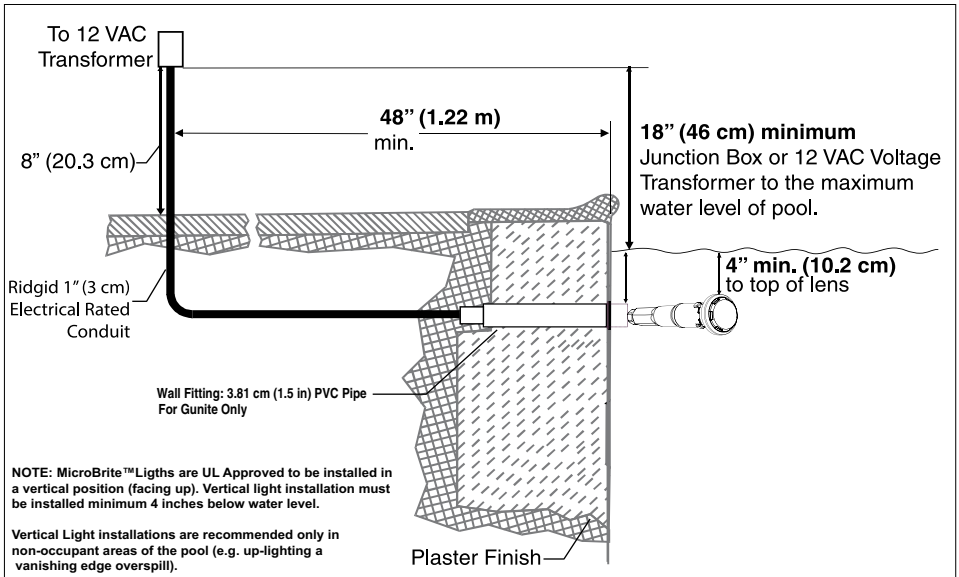
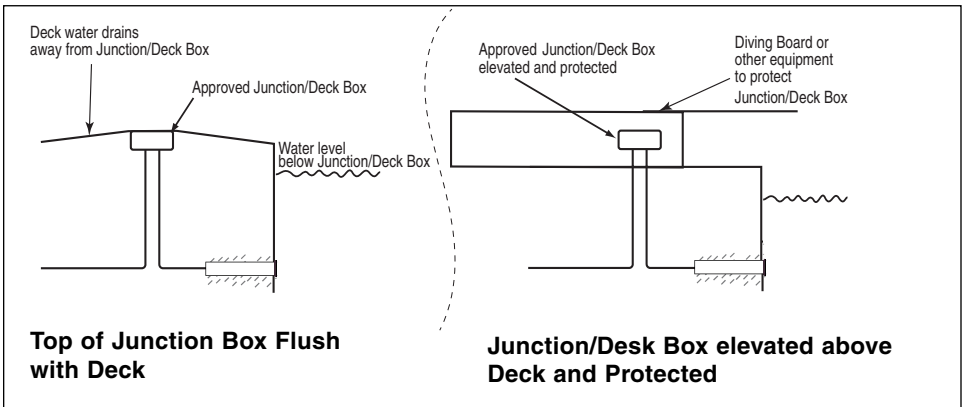

Figure 1.
Figure 2, Canada.
BEFORE STARTING: The following information describes the tasks that must be completed by the electrician *before* the light wall fitting is installed. See Figure 1.
- The Junction Box and the low voltage transformer is located at least 4 (four) inches (10.16 cm) above ground level or eight (8) inches (20.3 cm) above maximum water level, whichever is higher. The Junction Box must be at least 48 inches (1.22 m) from the edge of the pool. See Figure 1.
- The junction/deck box must be sealed to the conduit to prevent water from getting into the box, see Figure 2, below.
2. At the 12 VAC transformer or junction box, cut off any extra cord. Leave at least 15.2 cm (6 in) of cord in the Junction Box or transformer to facilitate the light installation wall fitting inspection. Cut off any extra cord. See Figure 1 on page 4, for junction box installation for USA, see Figure 2 on page 5 for junction box installation in Canada.
3. Connect the two (2) conductors to the corresponding circuit wires in the Junction Box. Secure the Junction Box cover.
- The Junction Box and the low voltage transformer is located at least 4 (four) inches (10.16 cm) above ground level or eight (8) inches (20.3 cm) above maximum water level, whichever is higher. The Junction Box must be at least 48 inches (123 cm) from the edge of the pool. See Figure 1 on page 4.
- The MicroBrite light wall fitting must be properly installed so that the top edge of the lens of the MicroBrite light is at least 4 inches (10.16 cm) below (not more than 48 inches (123.cm) below in Canada) the surface of the water in the pool or spa. See Figure 2 on page 5.